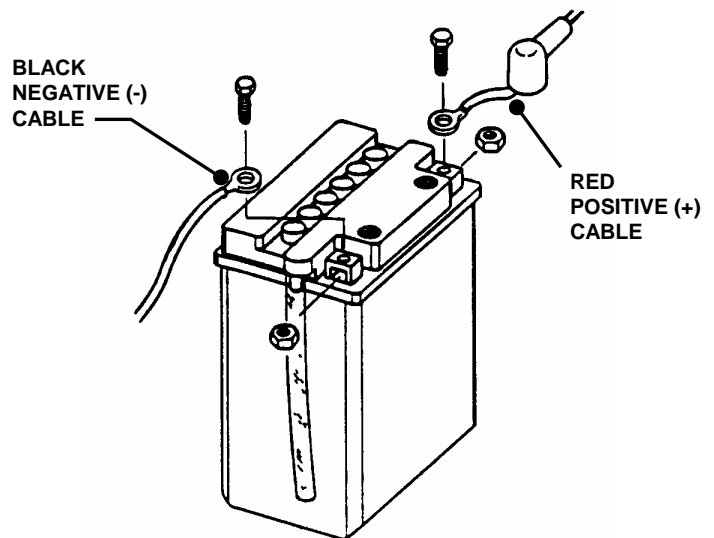

FIGURE 4.18
2. Observe and note cable positions on battery. See Figure 4.18.
2. Connect cables to battery terminals. Connect RED (Positive) cable first. Connect BLACK (Negative) cable. See Figure 4.18.
3. Place the positive (+) terminal insulator over positive terminal and cable. See Figure 4.18.